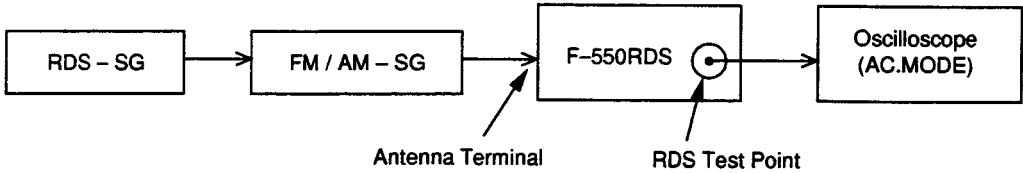

Fig. 1-3 RDS Adjustment Wiring Diagram
- Connect the wiring as shown in Fig. 1-3